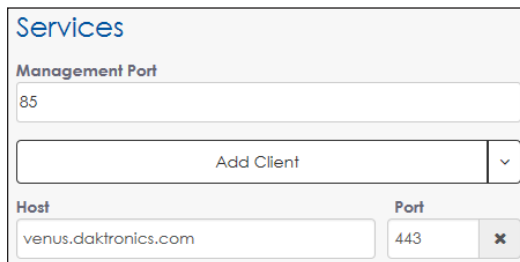

Figure 48: Services - Venus-Hosted
- **Venus - Hosted:** This option is for the Daktronics-hosted (remote, cloud-based) Venus® Control Suite software program. When this is chosen, the **Host** field is **venus.daktronics.com** and the **Port** field is **443** by default. Refer to **Figure 48**.